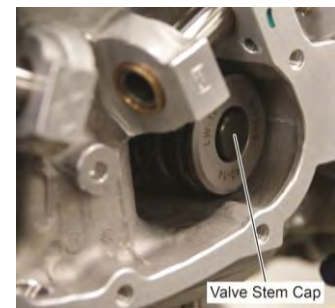

Figure 10
- (31) Install the valve stem cap (Figure 10) on the exhaust valve stem.